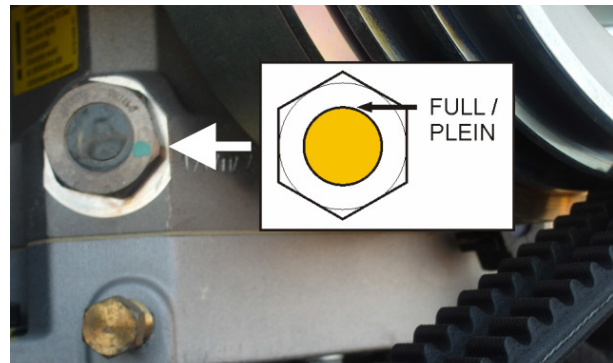
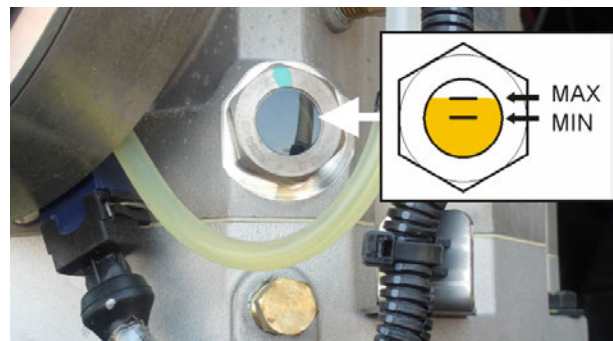

FIGURE 58: DRIVER SIDE OIL LEVEL BEFORE 10oz ADD-ON
FIGURE 59: DRIVER SIDE OIL LEVEL (BEFORE 10oz ADD-ON)
- Pump the oil in the compressor up to the full level. The driver side sight glass must be filled to the top and the curb side sight glass up to the max level mark (figure 58 & figure 59).